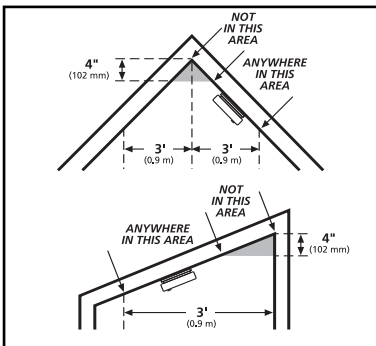

FIGURE 3
- Install Smoke Alarms on sloped, peaked or cathedral ceilings at or within 3 ft (0.9m) of the highest point (measured horizontally). NFPA 72 states: "Smoke alarms in rooms with ceiling slopes greater than 1 ft in 8 ft (.3m in 2.4 m) horizontally shall be located on the high side of the room." NFPA 72 states: "A row of detectors shall be spaced and located within 3 ft (0.9m) of the peak of the ceiling measured horizontally" (see figure 3).